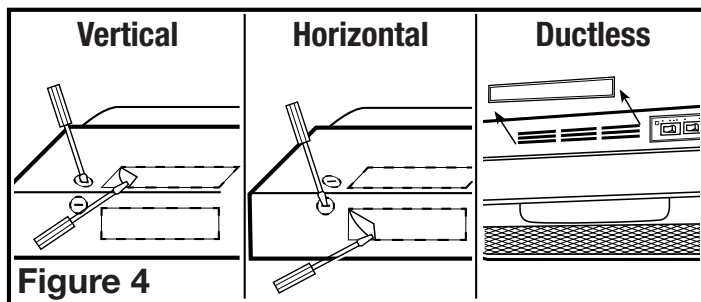

Figure 4
- 2a. **Horizontal or Vertical** - Remove the appropriate square knockout by inserting a screw driver under the edge and break the tabs holding it in place. Peel back with pliers (**Figure 4**).
- 2b. **Ductless** - Remove the hood's front louver cover, exposing the front air slots. To remove louver slide to one side and lift the trailing edge. Do not use a screwdriver or any other object that could scratch the hood (**Figure 4**).
3. Determine where the electrical service will enter the hood and remove the appropriate electrical knockout by inserting a screw driver into the slot and rocking back and forth until the knockout comes loose (**Figure 4**).
**NOTE: FOR DUCTLESS INSTALLATIONS ONLY,** if you did not already do so in the earlier steps, remove the vent insert from behind the grill on the outside of the hood (**Figure 4**).